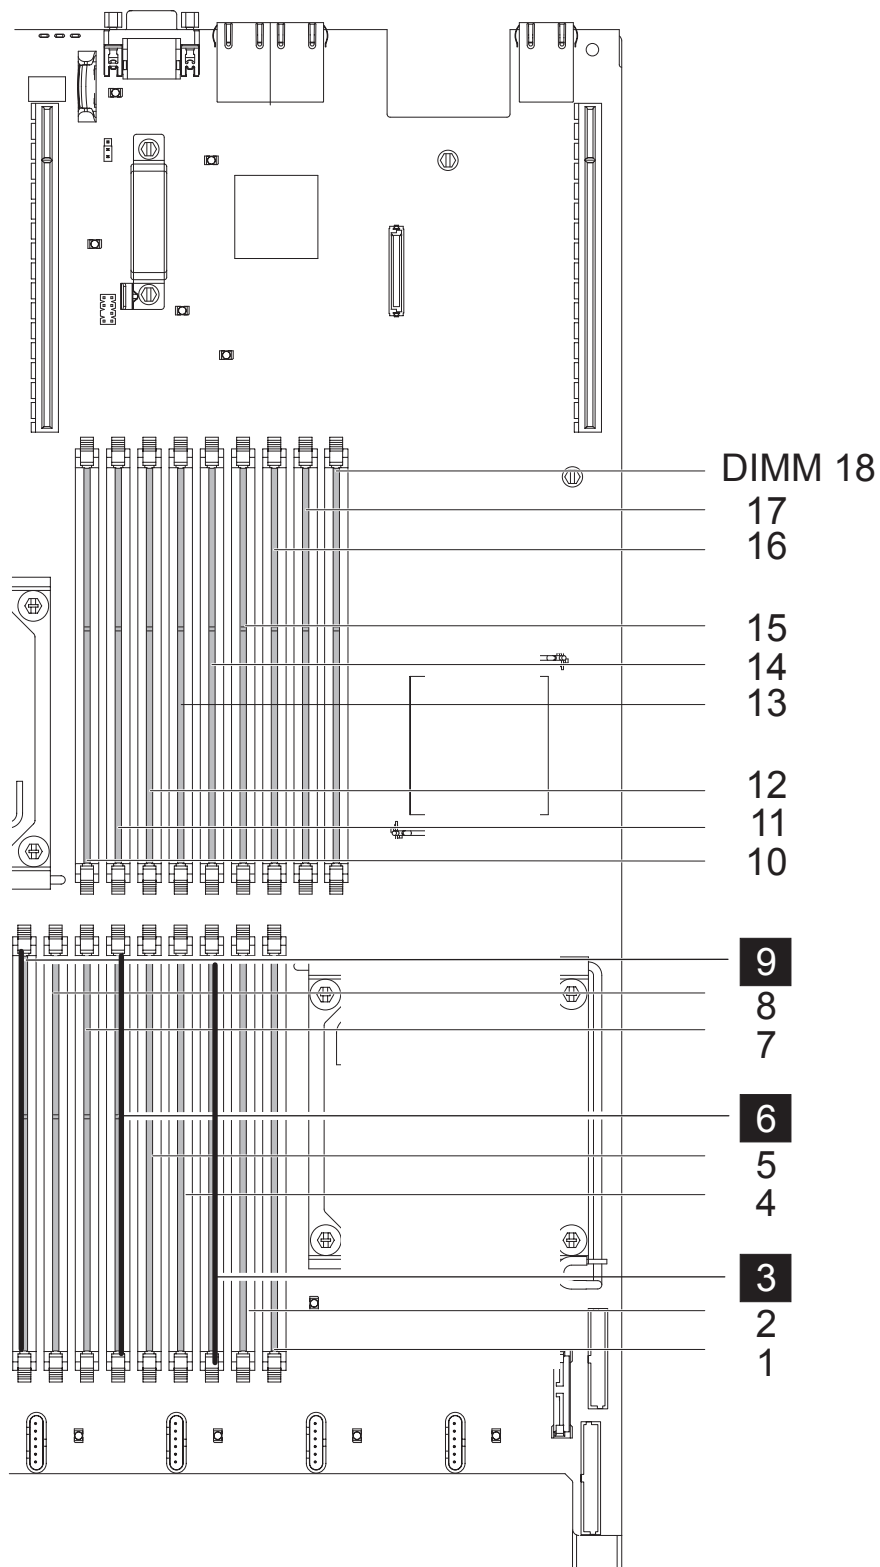

Figure 92. Locating the SAN Volume Controller 2145-CG8 memory modules
- SAN Volume Controller 2145-CG8: The SAN Volume Controller 2145-CG8 node uses three modules in DIMM slots **3**, **6**, and **9**, as shown in Figure 92 on page 105.